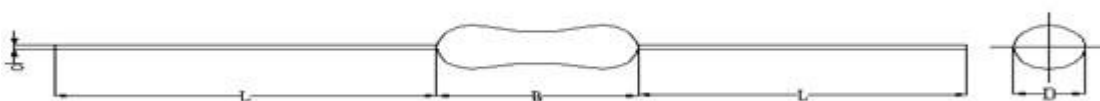

Fig.2. (圖-2)
5. Dimensions : see Fig2,5,6 and table 3,7,8.
(5. 电阻尺寸：参阅图2,5,6. 和表格3,7,8)